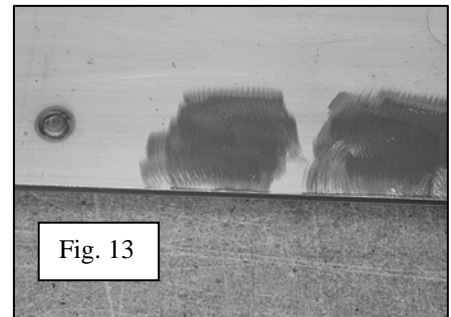

Fig. 13
7. Grind the plug welds smooth and prepare for painting. See figure 13.